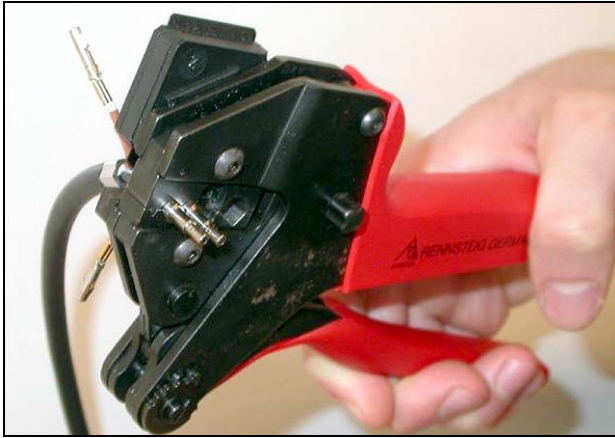
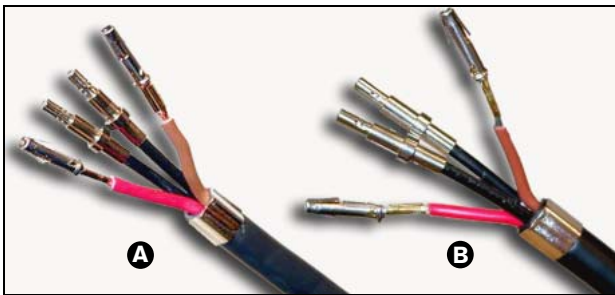

figure 3.21: Crimping ferrules (3)
figure 3.22: Ferrules on fibers
- 25 Crimp the ferrules on the sheath using the crimping tool (tool 3, see figure 3.21). See figure 3.22 for the result of this part of the cable-connector mounting procedure.